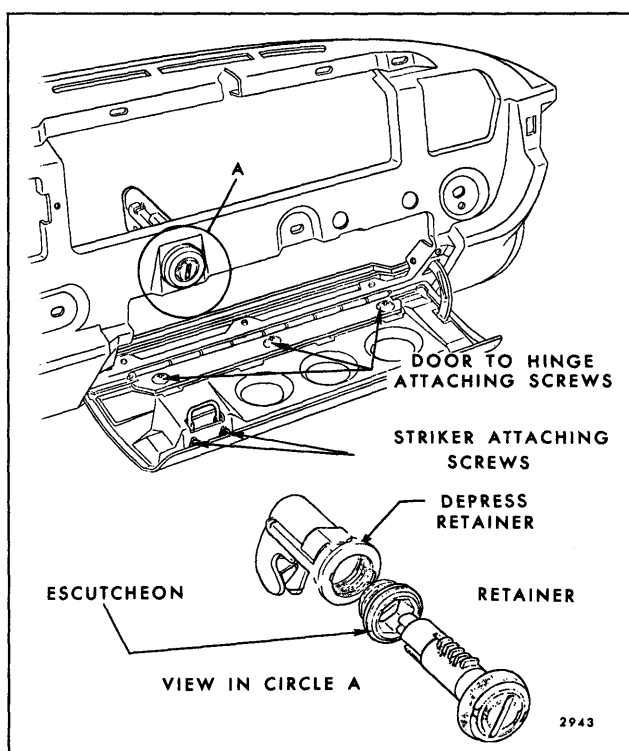

Fig. 5-8—Instrument Panel Compartment Door and Lock - "B-C" Styles
1. On "B, C, & E" body styles, to move the door up or down, loosen the door-to-hinge screws and position door as desired (Fig. 5-8).
4. On all styles, strikers can be adjusted on the door by loosening the attaching screws and positioning the striker as desired (Fig. 5-8).
2. With key out, depress retainer thru access hole on side of lock casing (Fig. 5-8).
4. Remove octagonal-head escutcheon (Fig. 5-8).